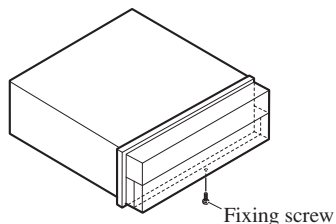

Fig. 21
- **Fix the front panel to the unit using fixing screws after removing the front panel. (Fig. 21)**